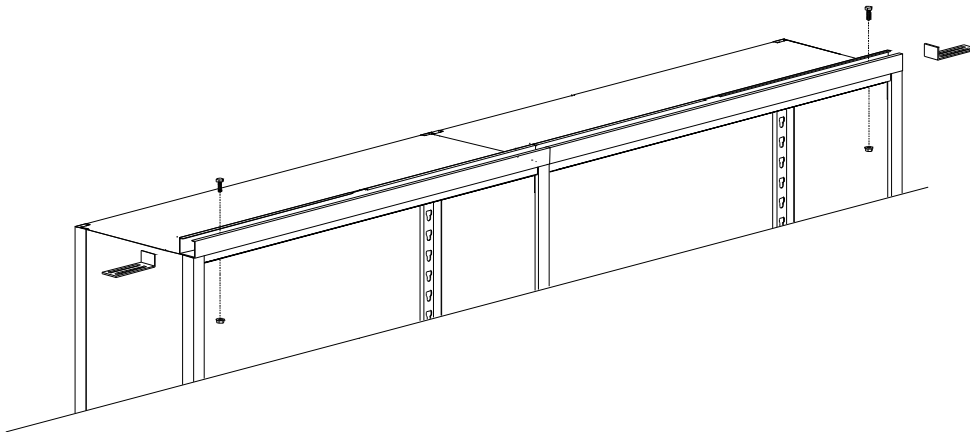

FIGURE 9
STEP 1.2 If the system has more than one static carriage, remove one (1) ¼ -20 x ¾ hex head bolts from the far left and far right sides of the Stationary Top Channels. Insert Top Safety Stops to each end of the Stationary Top Channels. Re-install and tighten the ¼ -20 x ¾ hex head bolts. See Figure 9.
STEP 2 Peel protective backing on adhesive on two (2) Rubber Bumper squares. Adhere to Bumpers to each Side to Side Carriage. One pair of Bumpers is needed for between Carriages.